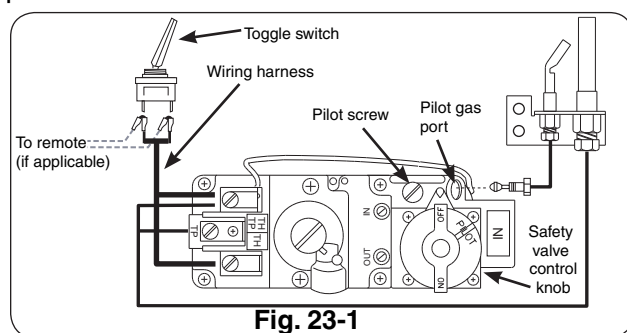

Fig. 23-1
To read the safety valve control knob (Fig. 23-1), read the marking nearest the teardrop-shaped metal pointer.
- b. If adjustment is necessary (Fig. 23-1), turn the gas adjustment screw counterclockwise ↺ to increase the pilot flame, or clockwise ↻ to decrease the pilot flame.